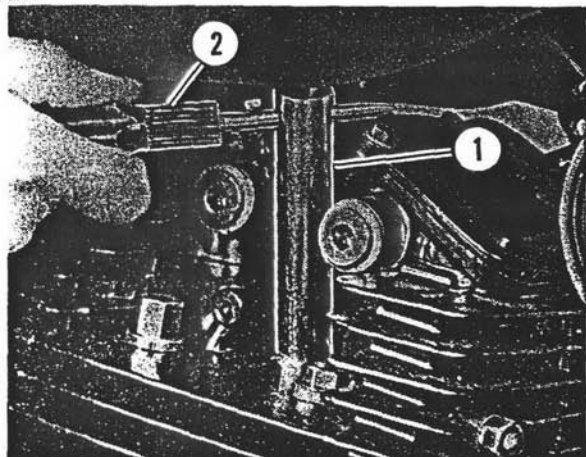

Figure 5-25. Removing Spark Plug
3. See Figure 5-25. Using spark plug socket (1) and screwdriver (2), remove spark plug from cylinder head.
5. See Figure 5-25. After spark plug has been installed by hand as far as possible, tighten plug 1/4-turn (90 degrees) with spark plug socket (1) and screwdriver (2).